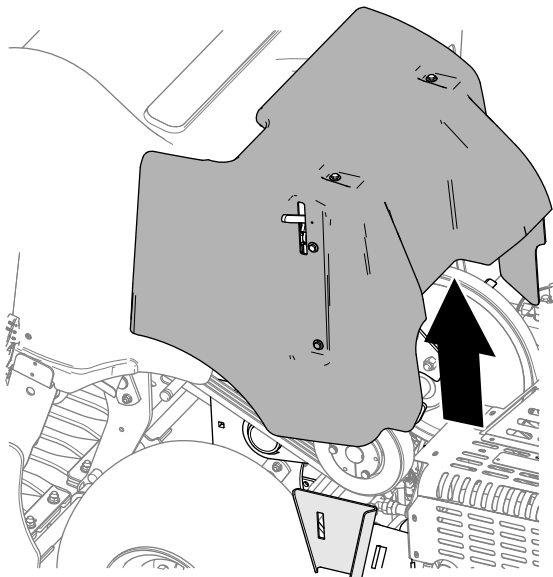

Figure 143
- Lift the belt cover from the machine (Figure 143).